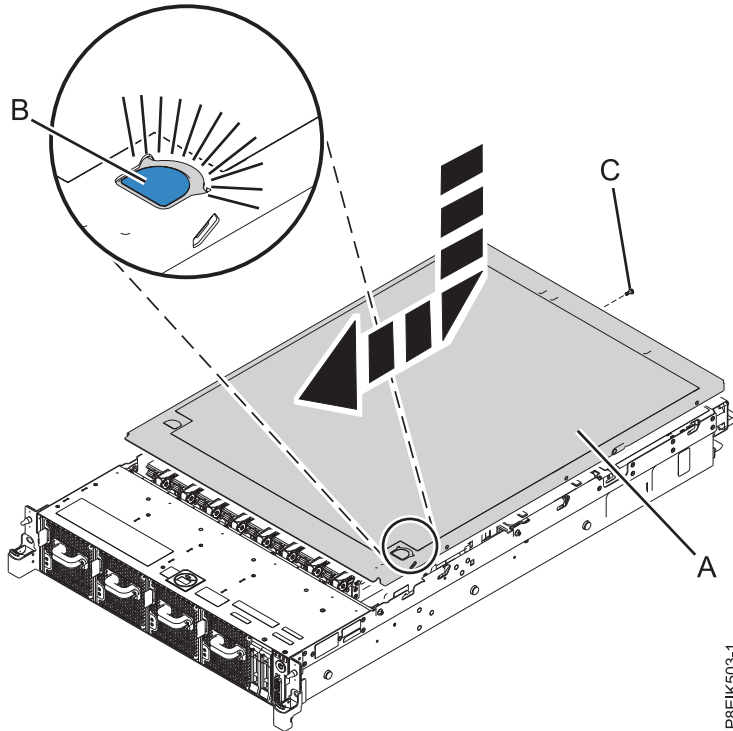

Figure 220. Installing the cover
1. Place the cover (A) on the system unit such that the alignment pins on the cover are aligned to the slots on the chassis. Slide the cover to the front of the system until the blue release latch (B) locks in to place as shown in Figure 220 on page 204.
2. Fasten the cover screw (C) at the rear of the cover.